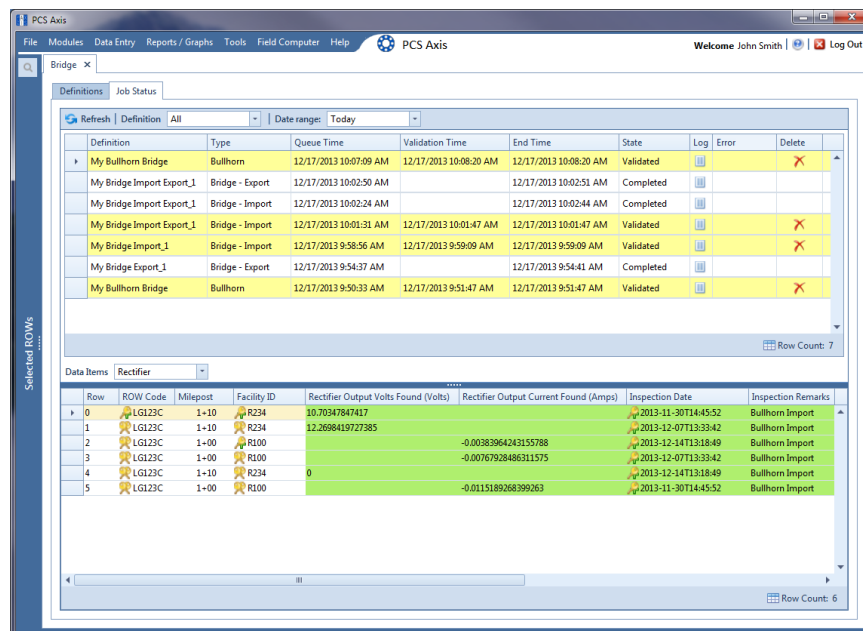

Figure 10-11. Job Status
- 16 To view the status of a Bridge session, click  **Job Status** in the *Definitions* window to open the *Job Status* window (Figure 10-11, page 502). Clicking  **Log** for a Bridge session opens the log file for the selected session.